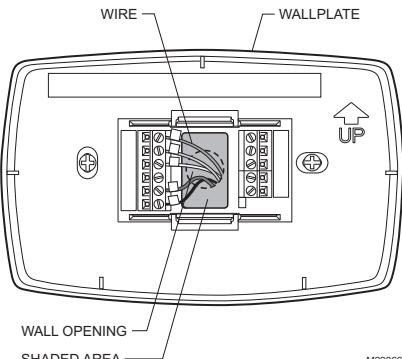

Fig. 6. Restrict wires to shaded area of wire hole.
4. Push excess wire back into the wall opening and restrict wires to the shaded area. See Fig. 6.